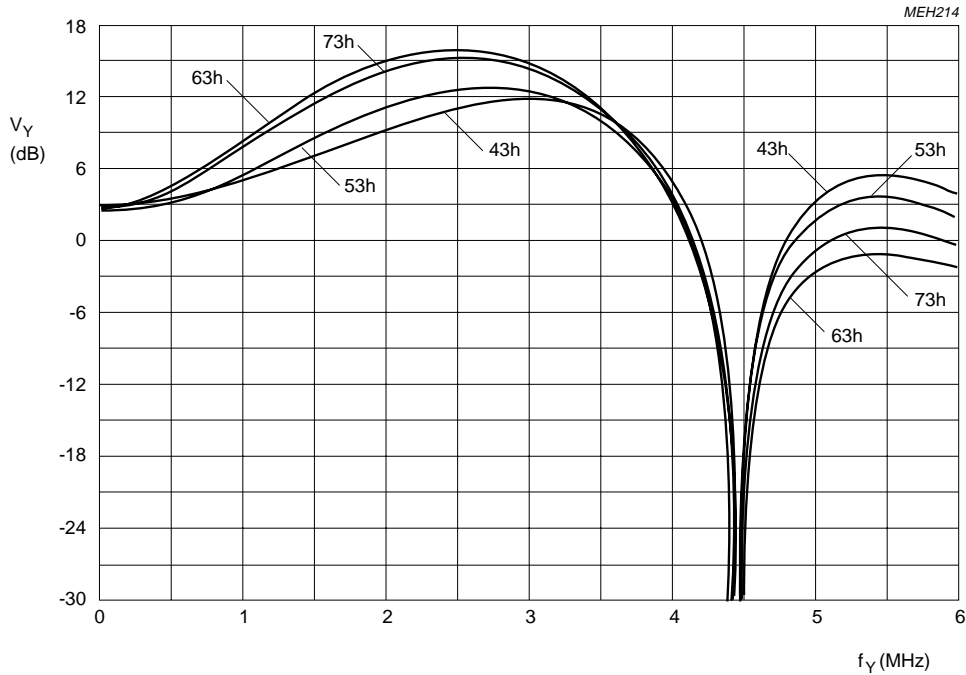

Fig.16 Luminance control in **50 Hz / CVBS** mode controllable by subaddress byte 06; pre-filter on and coring off; maximum aperture bandpass filter characteristic.
0 1) Figures 16 to 25
Figure 16 to 25
- dependent on application (Figures 16 to 25)